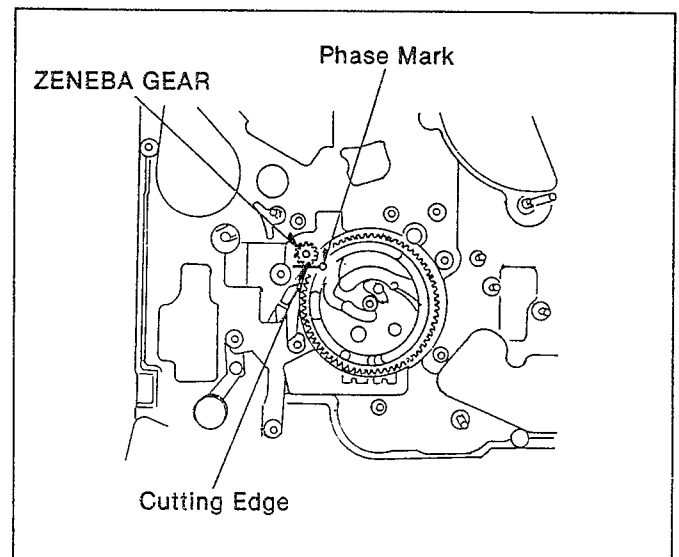

Fig. M4
- (2). Install the Zeneba Gear so that cutting edge of the Zeneba Gear face to the Cam Gear as shown in Fig. M4.